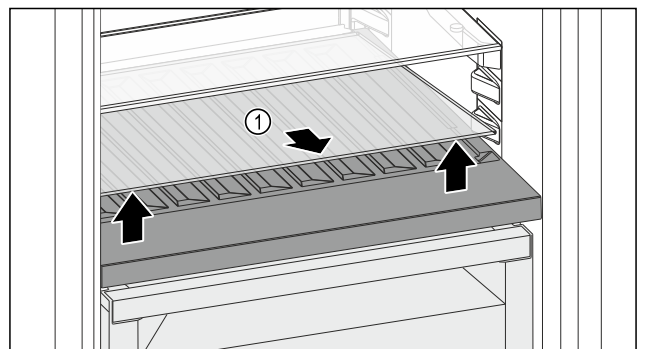

Fig. 221
- Lift the glass shelf Fig. 221 (1) at the front and remove.
- Store the glass shelf Fig. 221 (1) in a safe place outside the appliance.
- Insert the glass shelf (2) under the variable bottle rack.